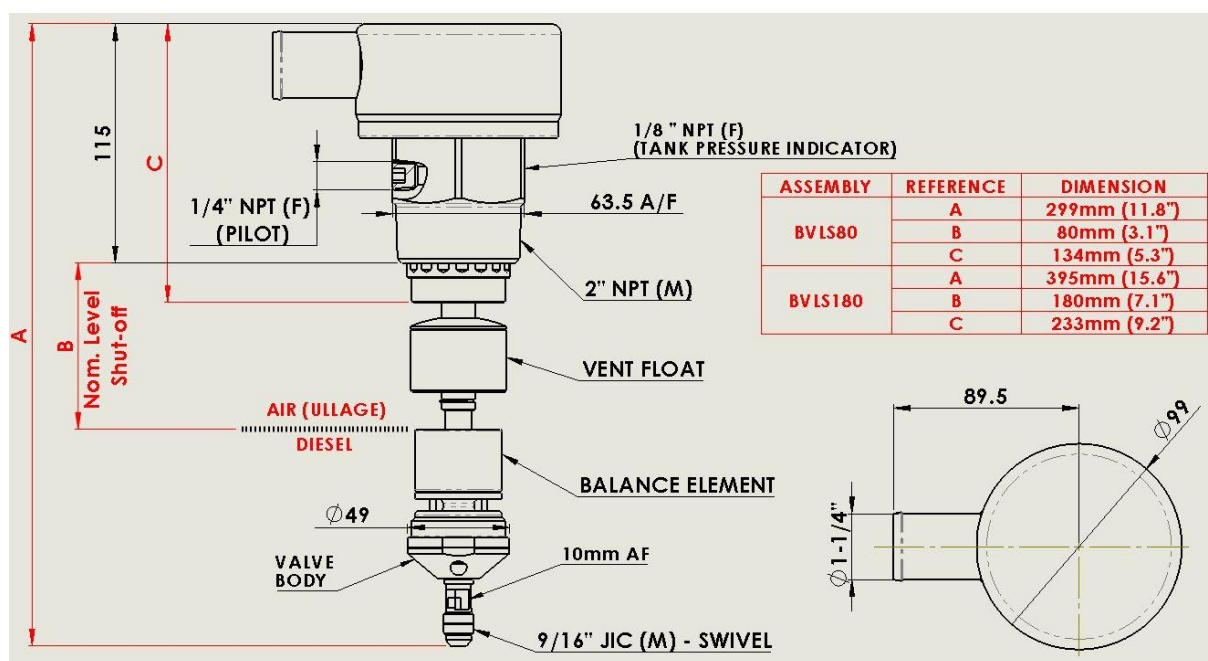

Figure 3 - BVLS Model Schematic
¹ Nominal Tank Ullage – measured from the bottom (base) of the Level Sensor 2" NPT (M) mounting thread – refer Figure 3 and Figure 17. **A tolerance of $\pm 5\text{mm}$ ($\pm 0.2"$) applies to dimension "B".**